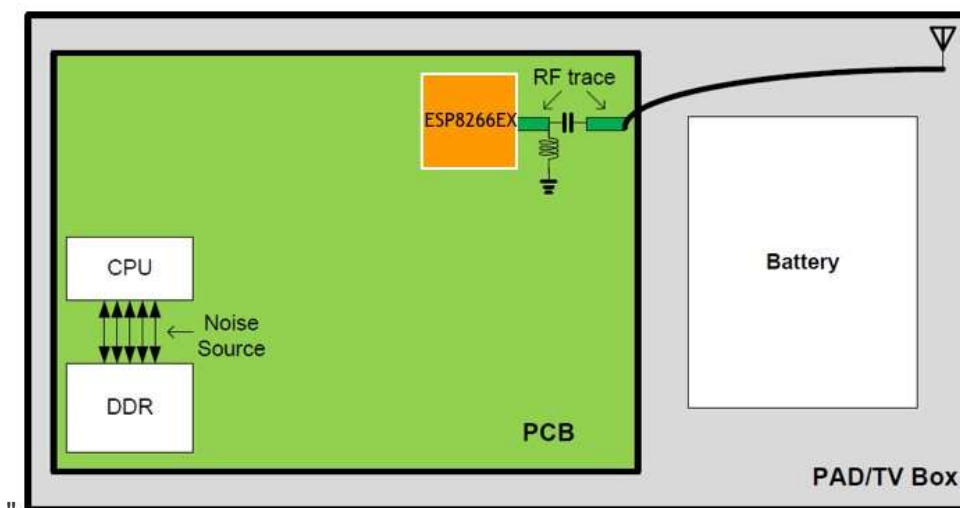

Figure 1-18. PCB/TV Box Layout
- As shown in Figure 1-18, ESP8266EX should be placed near the edge of the PCB and away from the CPU and DDR, the main high-frequency noise sources. The